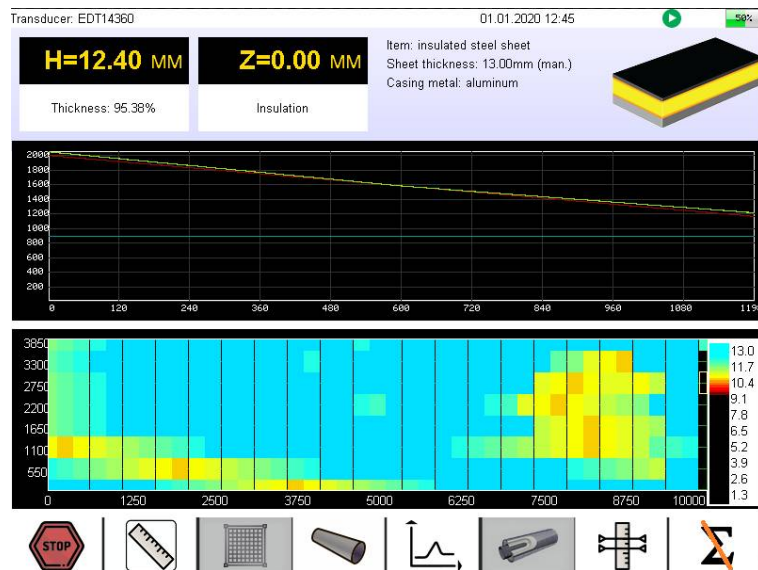

Figure 59. Example of C-scan.
- Thus, sequentially point by point, row by row, you will fill the entire C-scan. The example of such C-scan is shown in Figure 59.